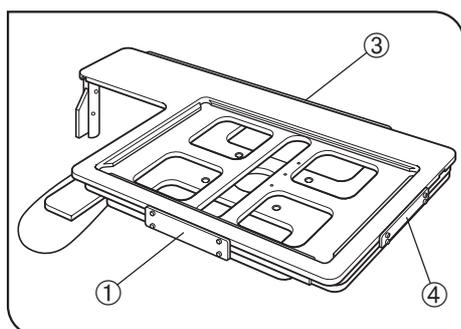

Fig. 5
1. Using the Allen wrench (3 mm), remove the transport clamping plate ① from the rear edge of the stage. (Fig. 5) The removed screws should be used to clamp the stage when attaching it.
2. While holding the stage so that the coarse adjustment grip and X-axis/Y-axis knobs are on the right, gently place the stage on the stage holder ②. Using the Allen screwdriver or Allen wrench, tighten the four screws temporarily.
3. Remove the transport clamping plate(s) from the front ③ and side (MX-SIC1412R2 only) ④ of the stage, move it to the rearmost position and, after confirming that the stage and arm do not interfere with each other, tighten the four screws firmly. (Fig. 5)
Caution Before Transporting the Stage (Fig. 5)